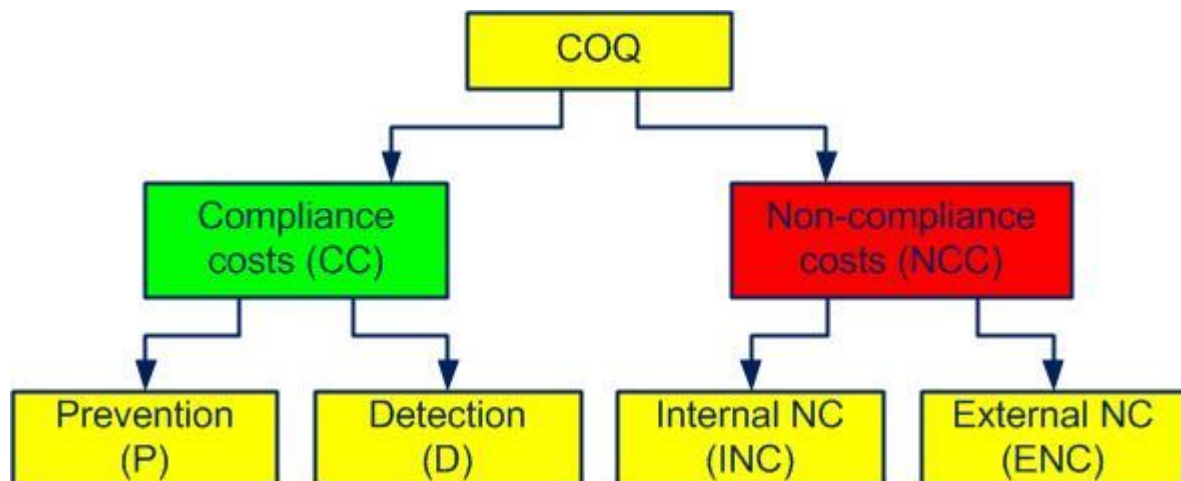

Figure 4-1. Cost categories
As shown in figure 4-1, compliance costs (CC) fall into two categories:
- prevention costs (P) and
- detection costs (D)